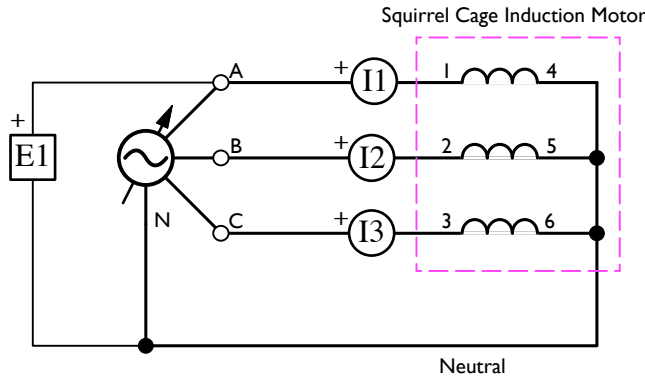

Figure 4.15: Three-Phase Motor – Three Phases
- 26. **Remove the belt** that couples the three-phase squirrel cage induction motor to the dynamometer, and construct the circuit shown in Figure 4.15.